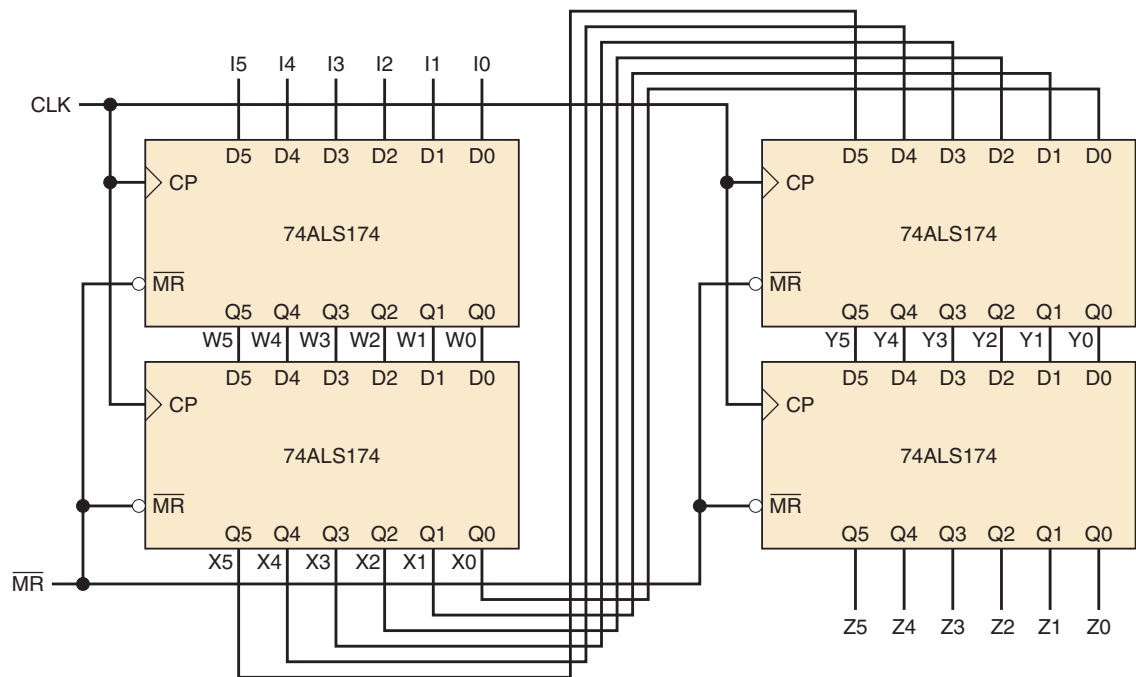

FIGURE 7-114 Problem 7-65.
- B** 7-65* A set of 74ALS174 registers is connected as shown in Figure 7-114. What type of data transfer is performed with each register? Determine the output of each register when the $\overline{MR}$ is pulsed momentarily LOW and after each of the indicated clock pulses (CP#) in Table 7-10. How many clock pulses must be applied before data that are input on *I5–I0* are available at *Z5–Z0*?